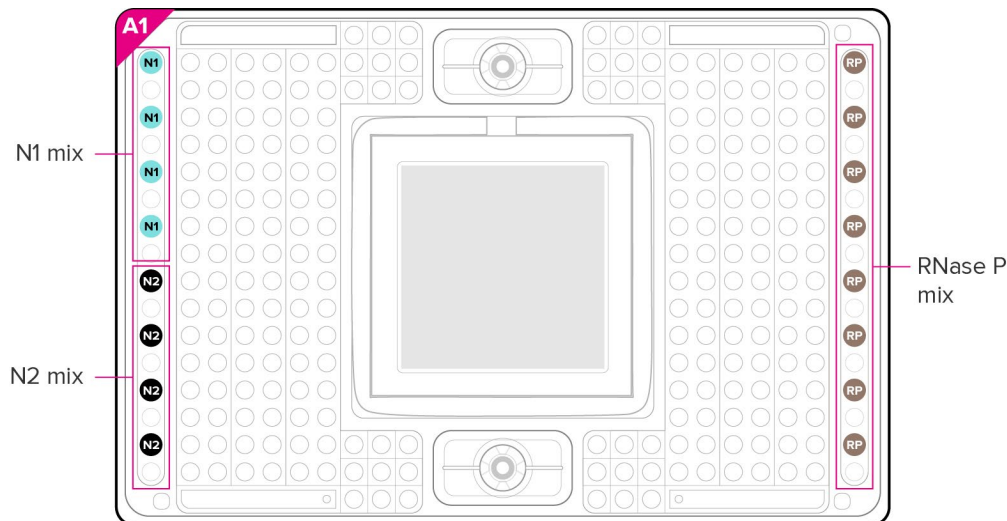

Figure 8. Pipetting map for PCR mixes
- 1 Pipet 15  $\mu\text{L}$  of Advanta Dx PF 2 (102-1462) in the 36 inlets (○) adjacent to each accumulator, as shown in Figure 8.